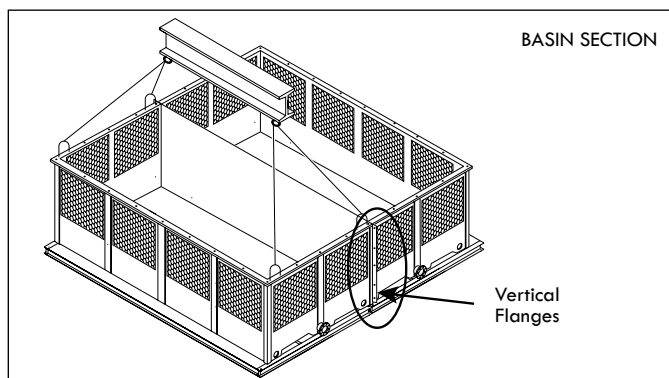

Figure A-26: Basin section 2 installation for a Four Fan Tower
- I. Place the basin section #2 of the Tower following the same instructions of step F and G. It is strongly recommended the use of the spreader bar as illustrated on Figure A-26. Once both sections are in the structural base, proceed to bolt together the vertical flanges of basin sections 1 & 2 with the stainless steel nut and bolt set supplied by REYMSA and secure both sections to the structural base.